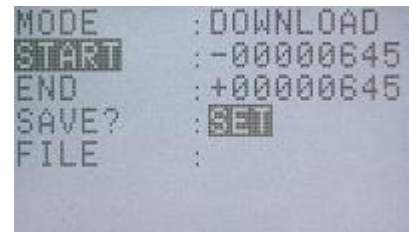

Figure 4-4 Transfer Mode Screen
- 3) Use the arrows   to select "MCFF" from the SAVE MENU and press SET  to display the transfer mode screen (Figure 4-4).